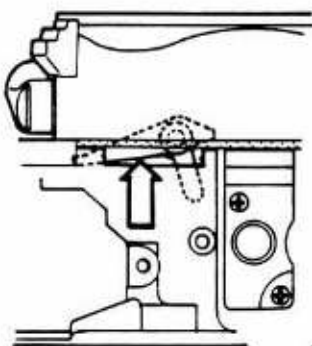

Fig. 14
- \* The shutter can be released by pushing the lever in the arrow direction in Fig. 14.